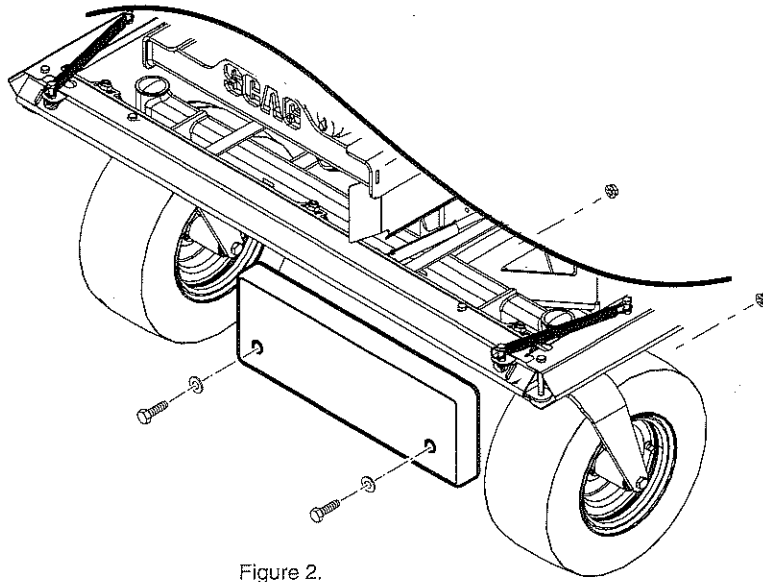

Figure 2.
4. After the mounting holes have been identified, with the help of an assistant place the weight against the frame aligning the two mounting holes in the frame and counterweight as shown in Figure 2 on page 2.
5. After the holes are aligned, fasten the weight to the front of the frame by installing one 1/2" hex head bolt and one 1/2" flat washer into each of the two holes of the weight, then through the frame. After installing the bolt and washer, fasten the weight to the frame with the 1/2" elastic stop nuts located on the back side of the frame. See Figure 2 on page 2. Tighten the hardware using standard torque specs.